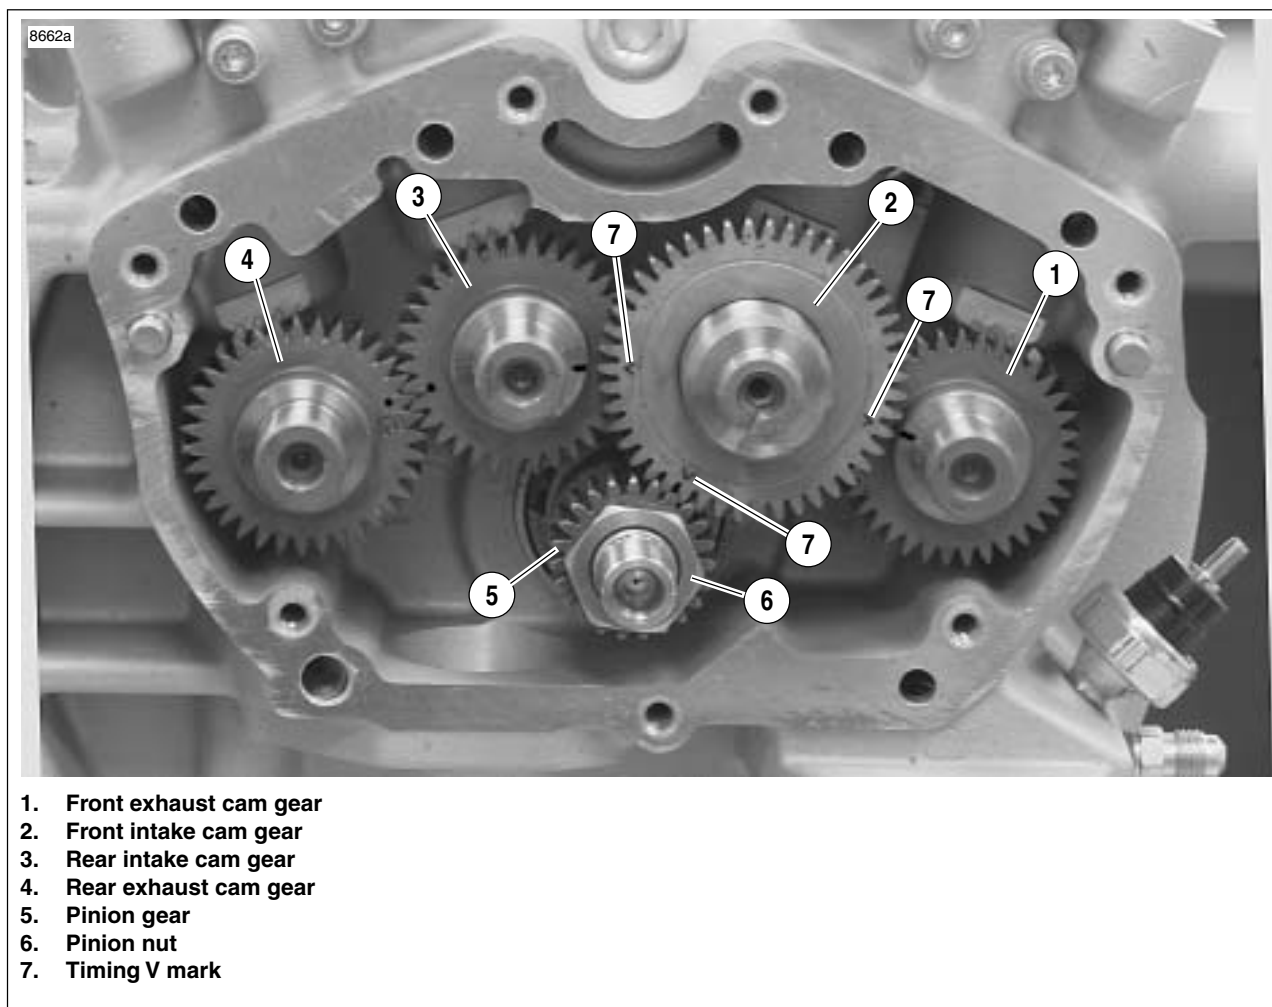

Figure 3-127. Cam and Pinion Gear Location and Timing Mark Indexing
8. See Figure 3-127. Remove cam gears (1, 2, 3 & 4).
See Figure 3-127. The *XB9SX* timing marks are located on the front intake cam assembly (2). Note the "V" marks.